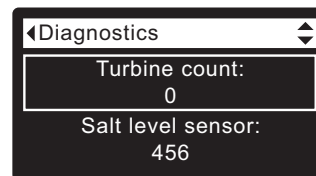

FIG. 103
2. Press the DOWN (▼) button to scroll through the list until **Turbine Count** is displayed (See Figure 103).